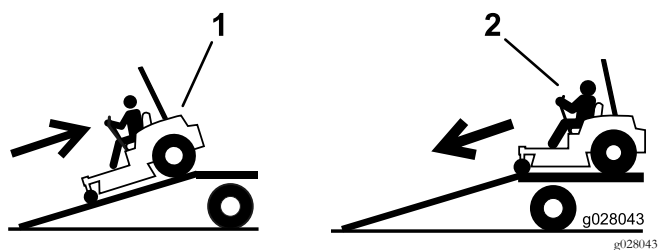

Figure 25
- Securely fasten the machine to the trailer or truck with straps, chains, cable, or ropes. Only use the four designated tie-down locations on the mower—two on the left side and two on the right (see Figure 25). Use these locations even when transporting the mower with an attached accessory. Using non-designated locations may cause damage to the mower and/or attachment.
Use extreme caution when loading or unloading machines onto a trailer or a truck. Use a full-width ramp that is wider than the machine for this procedure. Back up ramps and drive forward down ramps (Figure 25).